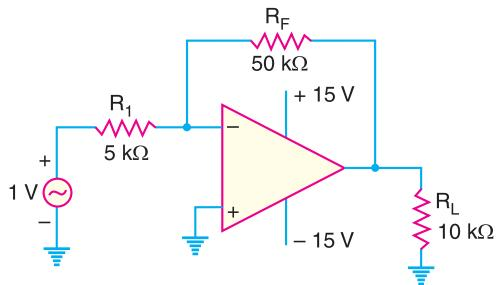

Fig. 25.101
7. For the circuit shown in Fig. 25.101, find (i) closed-loop voltage gain (ii) the instantaneous voltage across  $R_f$  when the signal voltage is +1V (iii) the instantaneous voltage on the –terminal when the signal voltage is +1V.